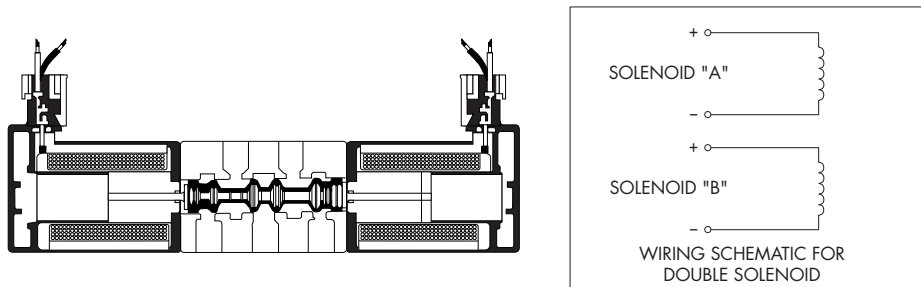

Figure 4 : Conventional Double Solenoid
As shown in Figure 4, a conventional double solenoid valve requires that the pair of lead wires from each solenoid be wired to an appropriate voltage source, MAC's latching solenoid technology has the option of being wired in one of the three (3) currently available methods.